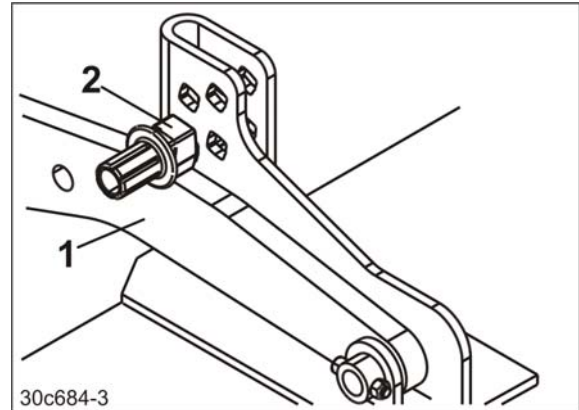
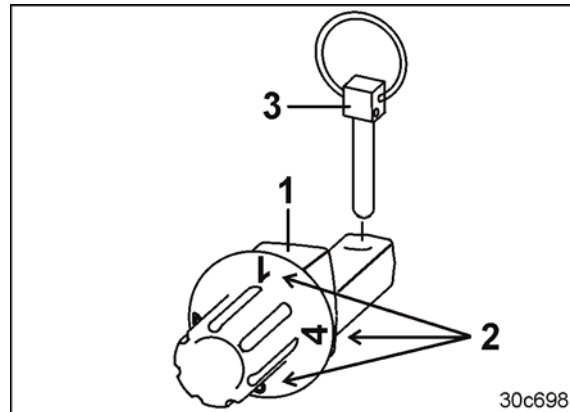

Fig. 113
Fig. 115
1. Lift the implement just enough for the depth setting pins (Fig. 113/2) to clear the carrying arms (Fig. 113/1).
- o the larger the number (Fig. 115 /2) present at the carrying arm (Fig. 113/1).